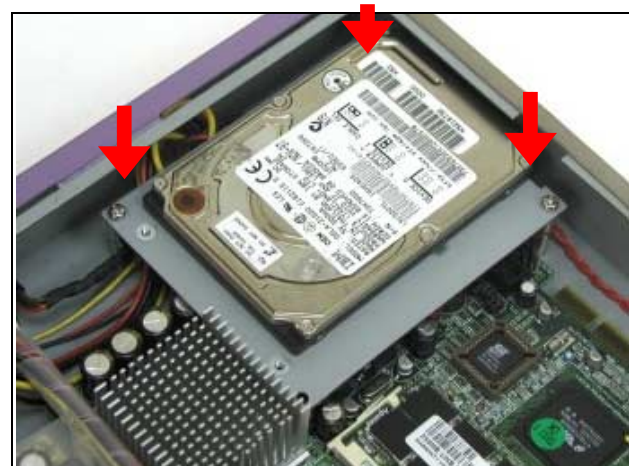

Fig. 2-19 Drive all four screws back
4. Fix all three screws back (**Fig. 2-19**).